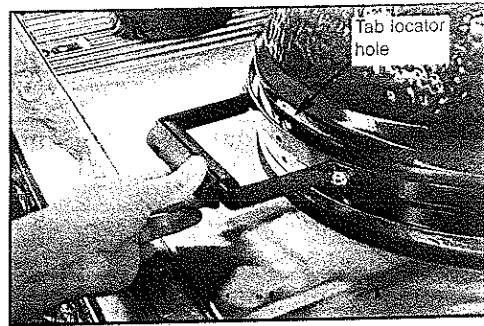

Fig. 6
6. Position the dome (top of egg), onto the Egg bottom and inside the upper band taking care to position the upper band-locator tab into the locating hole in the front of the dome. (See Fig. 6)